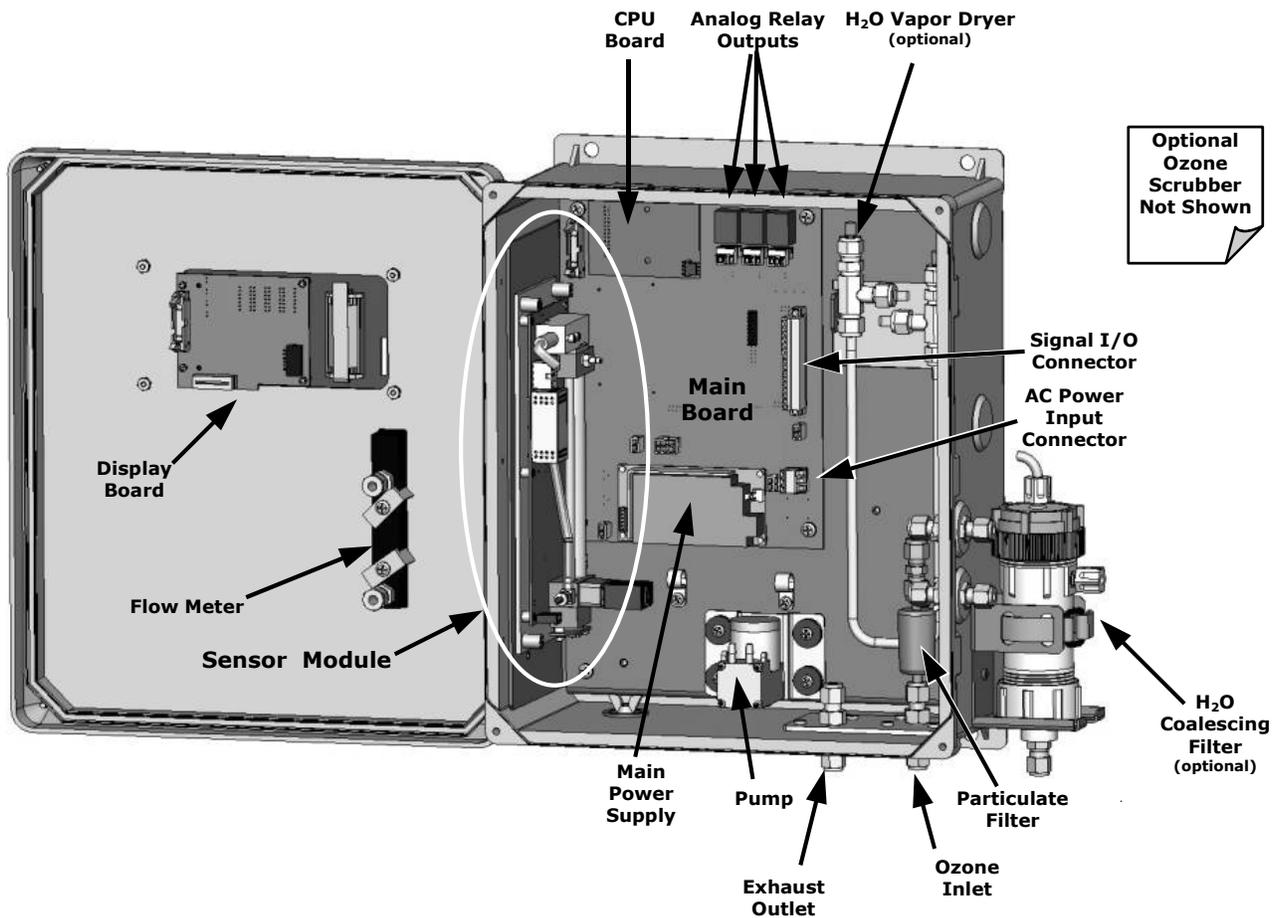

Figure 3-2 460L Layout
4. Check the connectors of the various internal wiring harnesses and pneumatic hoses to make sure they are firmly and properly seated (see Figure 3-2).